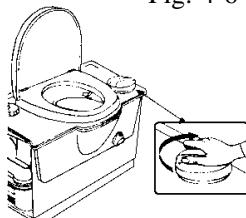

Fig. 4-6
2. Flush a few times by turning the flush knob to drain the pump assembly. (Fig. 4-6)